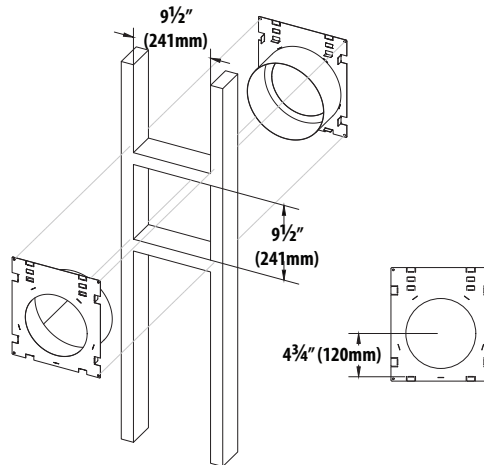

Figure 3.5, Horizontal Vent Terminations
- Rigid pipe dimensions in Figure 3.5 reflect Simpson Duravent 4" x 6-5/8" coaxial pipe. Other manufacturers product dimensions may vary
- Flexible pipe framing dimensions in Figure 3.5 reflect Kozy Heat #700-2 Series Flexible Vent System.